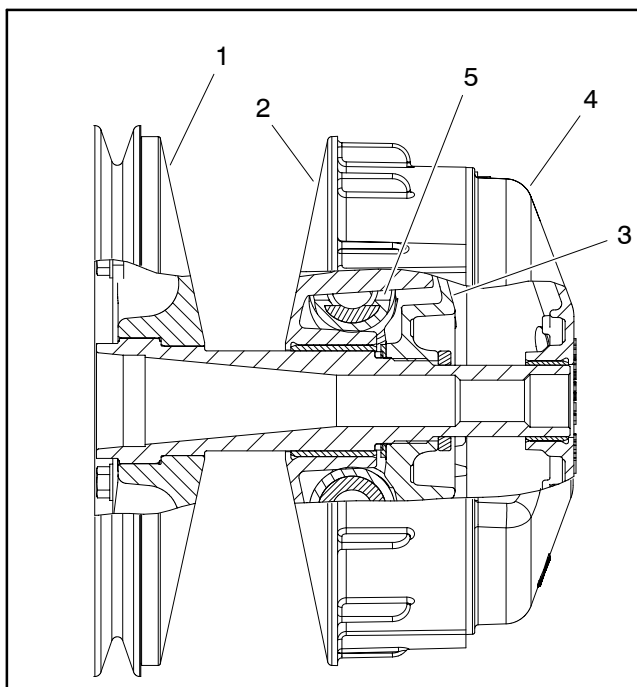

Figure 3
The drive clutch used on vehicles with serial numbers above 310000000 (Fig. 3) controls moveable sheave operation with six (6) weighted rollers and ramp surfaces in the moveable sheave.